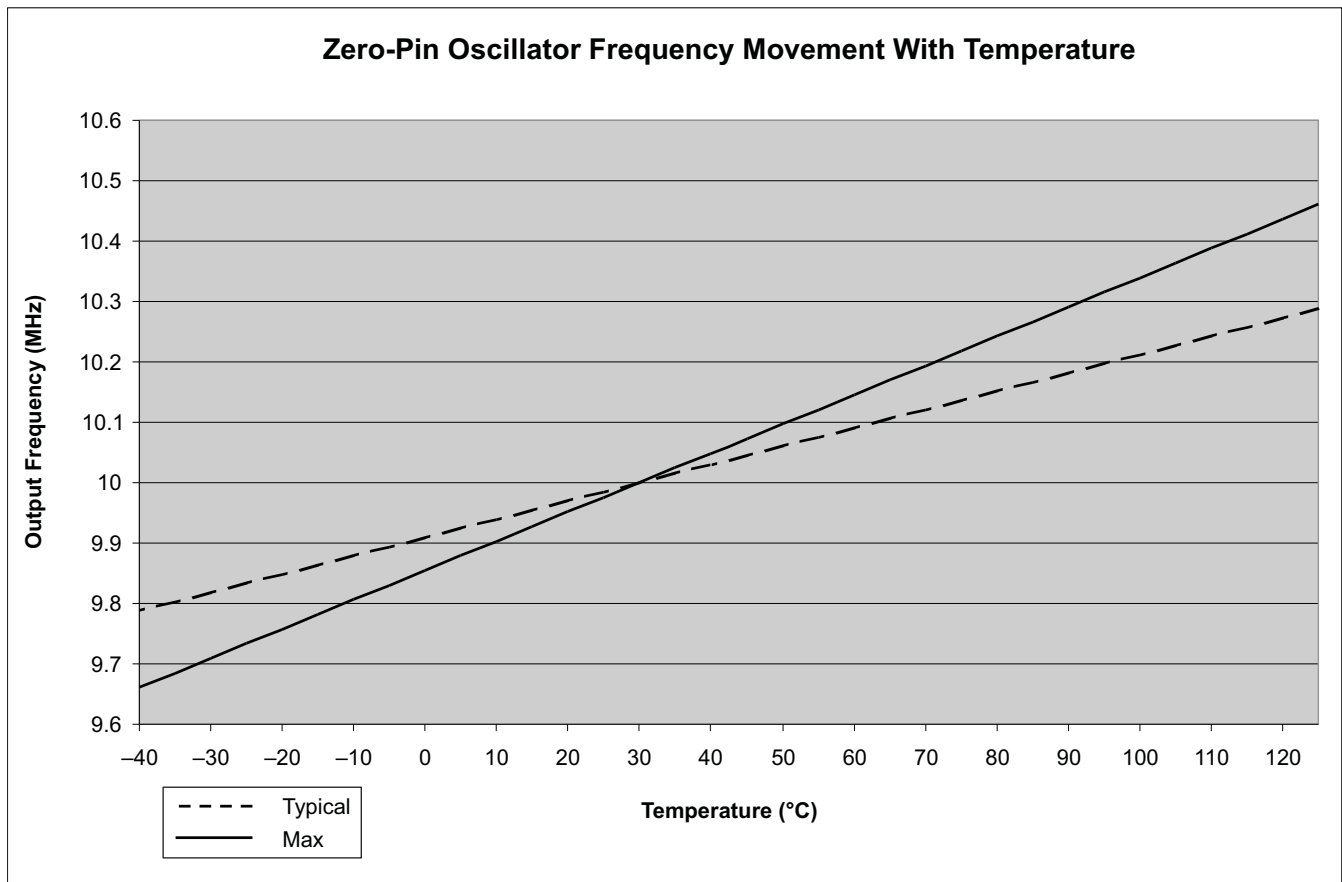

Figure 5-9. Zero-Pin Oscillator Frequency Movement With Temperature
- (1) Oscillator frequency will vary over temperature, see Figure 5-9. To compensate for oscillator temperature drift, see the Oscillator Compensation Guide and C2000Ware.
- (2) Frequency range ensured only when VREG is enabled, $\overline{VREGENZ} = V_{SS}$.
- (3) Output frequency of the internal oscillators follows the direction of both the temperature gradient and voltage (V_{DD}) gradient. For example: